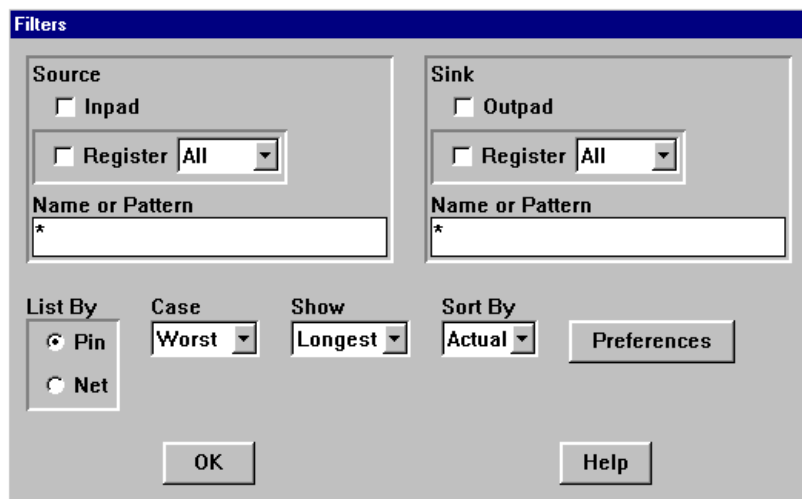

Figure 7-1. DT Analyze Filters Dialog Box
1. **Invoke DT Analyze.** Click the DT Analyze button in the Designer Main window. the DT Analyze Filters dialog box is displayed (see Figure 7-1).